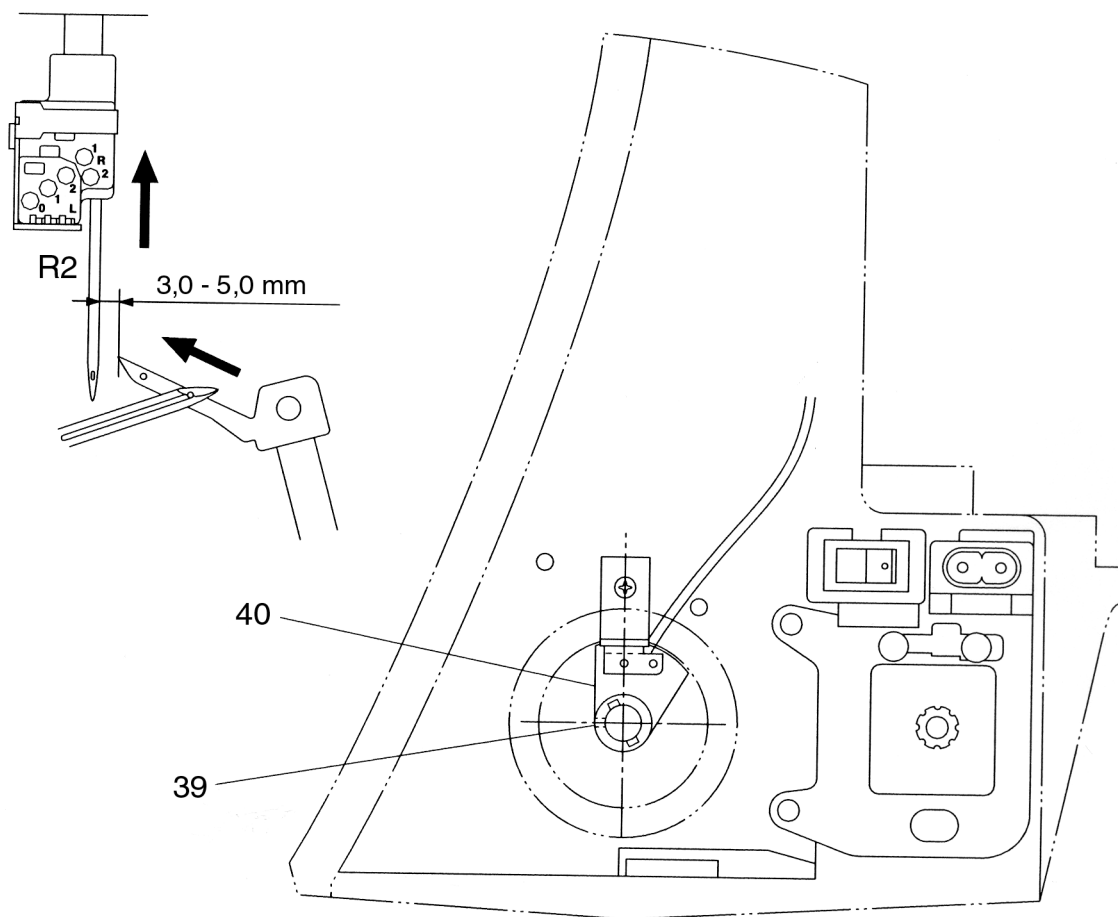

Fig. 66
If the foot control is released, the needle bar must stop at its highest position and the upper overedge looper must have a clearance of 3.0 - 5.0 mm to the needle "R2" (fig. 66).
- Loosen the fastening screw 39 (fig. 66).
- Set the washer 40 as shown in fig. 66.
- Keep repeating this procedure until the setting is correct (as seen in fig. 66).